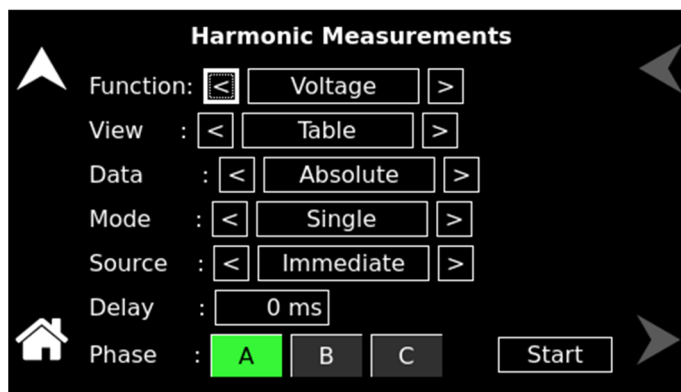

Figure 7-1. HARMONICS Menu
1. Navigate to the HARMONICS menu of the MEASUREMENTS screen; refer to Figure 7-1.